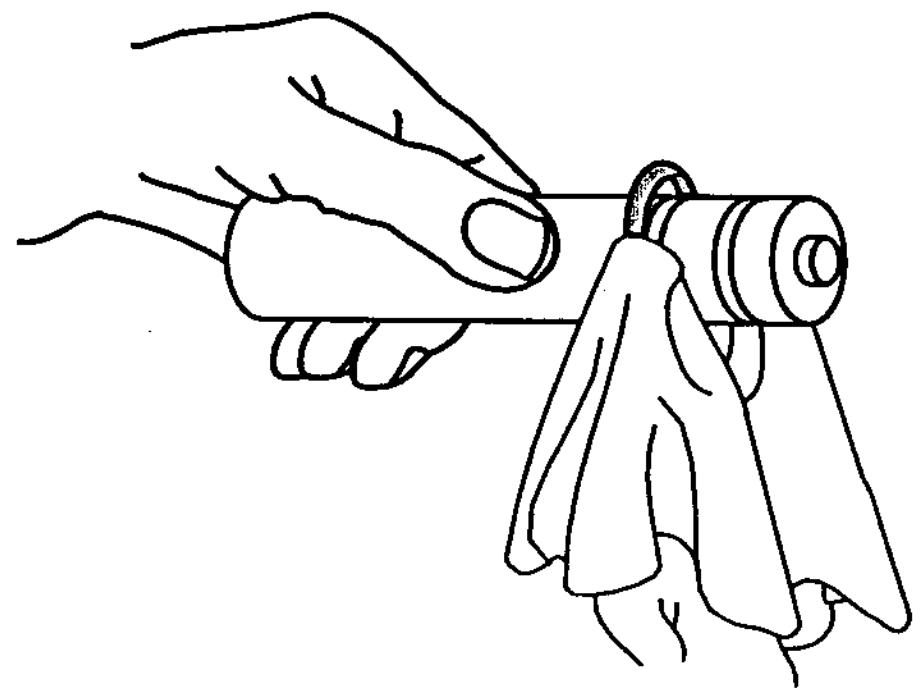

Fig. 9
- d. Remove the o-rings from the spigot plungers by grasping the part with one hand and with a dry cloth in the other hand, squeeze each o-ring upward. When a loop is formed, grasp the o-ring with the other hand and roll it out of its groove and off of the part (Fig. 9).
- a. Remove the insert tubes from the housings and remove the o-rings from the bottoms of the insert tubes in the same manner as the spigot plunger o-ring removal (Fig. 9).